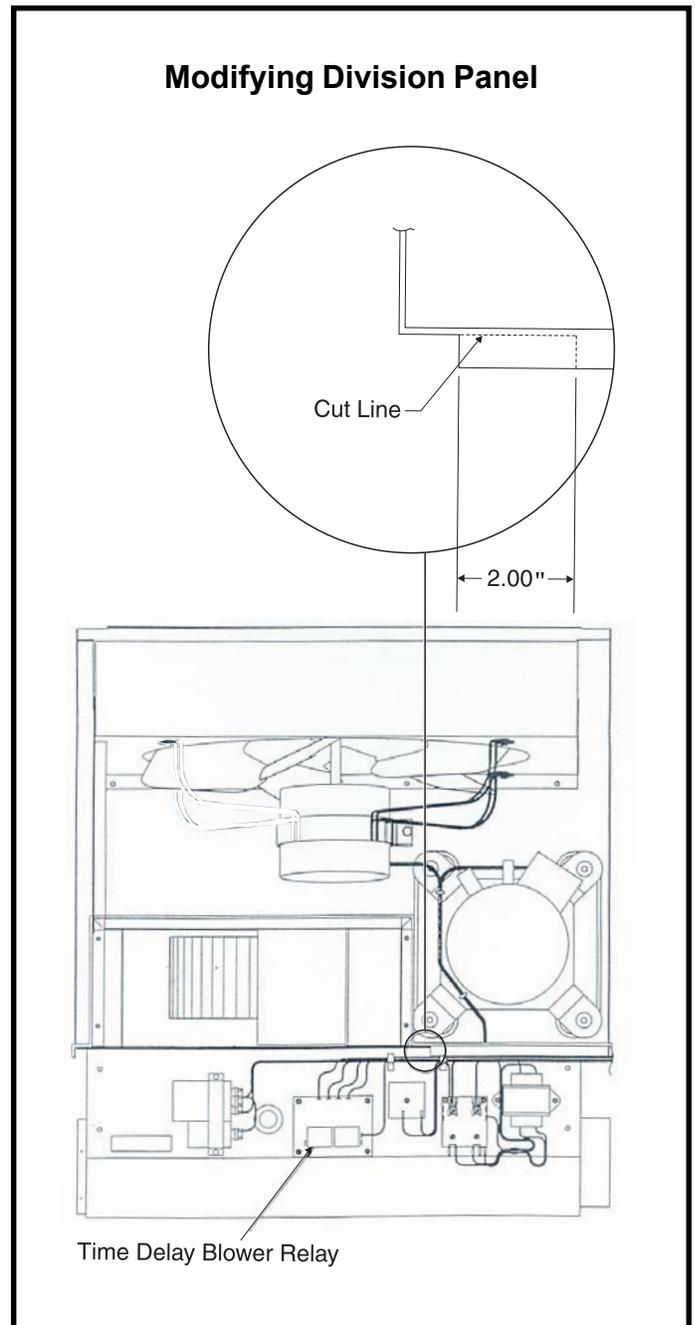

Figure 1
2. In order for the blower close-off panel to fit, a slight modification to the new chassis is required. The modification is required so that the blower close-off panel, which is located above the chassis in the unit that seals off the blower outlet to the cabinet, will fit. Referring to Figure 1, cut a 2" notch in the top flange of the chassis division panel that separates the evaporator and blower section from the compressor and condenser.
come wired from the factory with both heating and cooling speeds set for high speed. A jumper wire, as supplied from the factory, goes between the heating and cooling relays. This wire must remain in place if both heating and cooling are to run on the same motor speed. If the heating and cooling speeds are different, the wire must be removed and wired accordingly. See Figure 1 for board location.